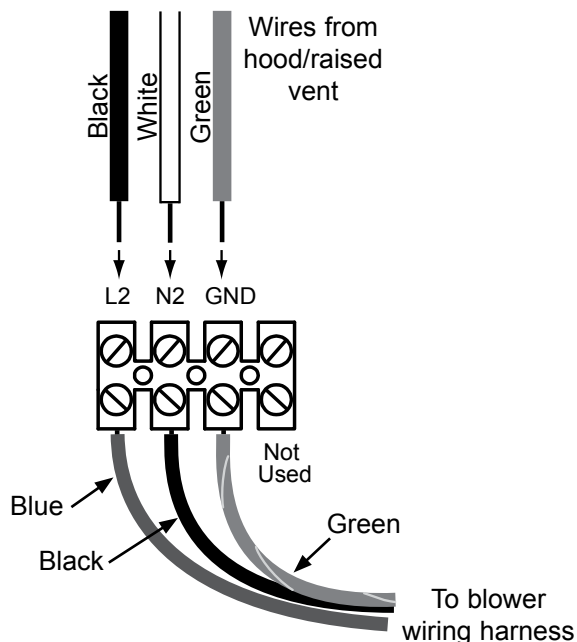

Figure 9: Wiring Diagram
11. Connect the black (L1) wire to the L2 blower power terminal (see Figure 9). Tighten the terminal screw firmly into place. **IMPORTANT:** The L2 (hot) terminal on the blower has the BLUE wire from the blower wiring harness connected to it.
12. Connect the white (neutral) wire to the N2 blower power terminal (see Figure 9). Tighten the terminal screw firmly into place. **IMPORTANT:** The neutral (N2) terminal on the blower has the BLACK wire from the blower wiring harness connected to it.
13. Connect the green (GND) wire to the GND blower power terminal (see Figure 9). Tighten the terminal screw firmly into place.
14. Check the wires from the blower wiring harness to make sure that they are firmly attached to the terminal according to Figure 9. Reconnect any wires that are loose. Make sure all terminal screws are tight.